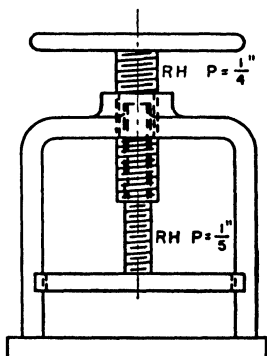

Fig. P 11.24
11.24. A differential screw press is shown in Fig. P 11.24. How many times must the handwheel be turned to lower the plate $\frac{1}{16}$ in.